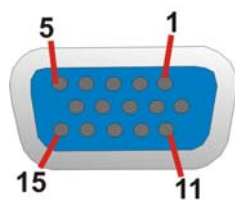

Figure 4-23: VGA Connector
- CN Pinouts:** See Figure 4-23 and Table 4-25